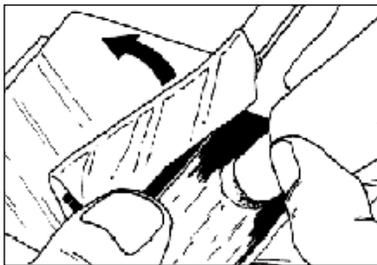

Figure 15
3. Remove one protection paper and lubricate the larger surface of the clip wing. (Figure 15)